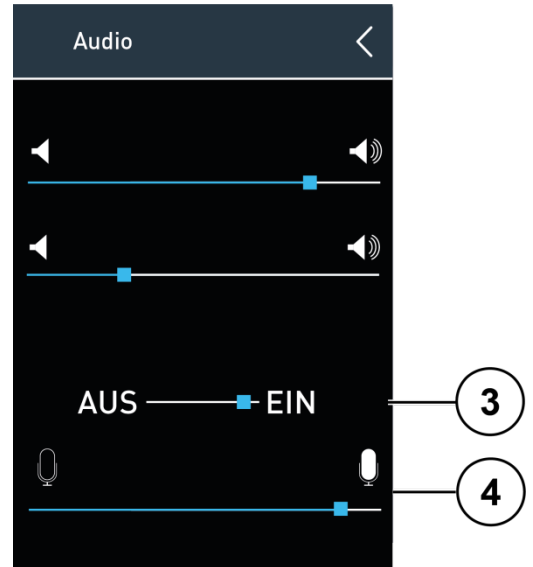

Fig. 14: Microphone settings
- analogue pre-amplification (Fig. 14).
- ▶ Slide the slide switch automatic control to *ON* (3).
- ▶ Slide the microphone control to the right to increase the microphone sensitivity resp. to the left to reduce it (4).